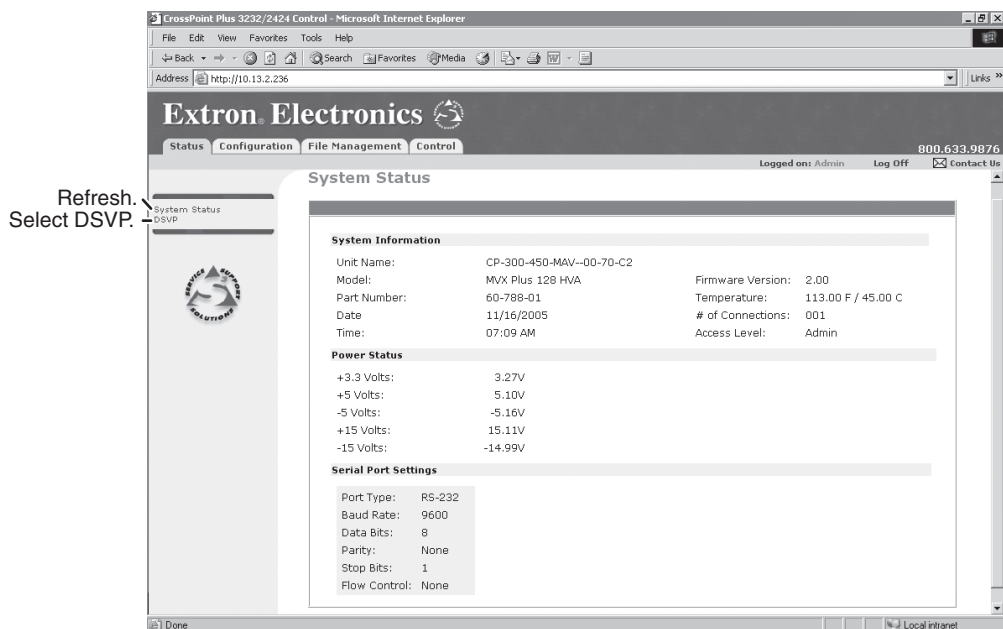

Figure 6-2 — System Status page
- c. **If neither of the above conditions is true**, the switcher downloads the factory-installed default startup page, "nortxe_index.html" (figure 6-2), also known as the System Status page.
The System Status page (figure 6-2) provides an overall view of the status of the matrix switcher, including individual voltages, and the serial port status (if applicable). The System Status page is the default page that the switcher downloads when you connect to the switcher. Access the System Status page from other pages by clicking the *Status* tab.